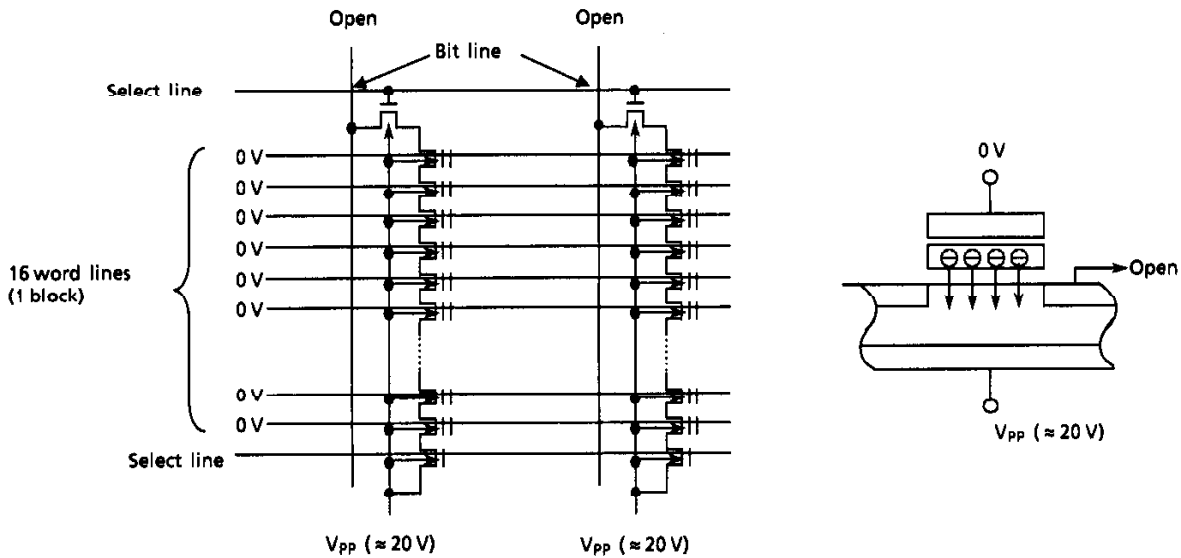

Figure 18. Erase Operation Device Physics
- (1) A high level is applied to Select line 1 and a low level to Select line 2, so that the device is connected to the Bit line and disconnected from the ground line.
- (2) V_{pp} (≈ 20 V) is applied to the selected word line and an inhibit voltage of V_{PI} (≈ 10 V) is applied to the unselected word lines.
- (3) 0 V is applied to the bit line tied to cell transistor TR1 and the inhibit voltage V_{DPI} (≈ 10 V) is applied to the bit line tied to TR2.
- (4) V_{pp} is applied between the control gate and the channel in TR1, as shown in Figure 18, which causes electrons to be injected from the channel to the floating gate by a tunneling mechanism.
- (5) The injected electrons are captured in the floating gate which is surrounded by an oxide layer and will remain there, even after power is cut off, until they are removed by an Erase operation.
- (6) Although 20 V is applied to the control gate of TR2, the voltage difference between the control gate and the channel is only 10 V because the voltage of the channel is 10 V. Therefore, tunneling does not take place (i.e. electrons are not injected into the floating gate).
- (7) Tunneling does not take place in the unselected pages because of the 10 V (V_{PI}) applied to the unselected word lines which makes the voltage difference between the control gate and channel only 10 V.
Figure 18 shows the Erase mechanism at the NAND memory cell level . The Erase operation is used to turn all the 0 (programmed) cells in a block back to 1 . The captured electrons are pulled out from the floating gate to the substrate by a tunneling mechanism. 0 V is applied to the control gate and V_{pp} (≈ 20 V) is applied to the substrate so that a 20-V potential is created, causing the electrons in the floating gate to be pulled out by the tunneling mechanism.